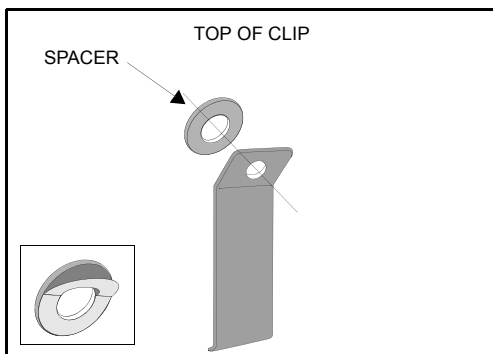

Figure 8.
8. **OPTIONAL SPACER:** Use the spacer if required, as described in step 7. Peel the protective strip away from spacer and adhere the spacer to the top of the right hand side clip to aid installation, as shown in Figure 8.